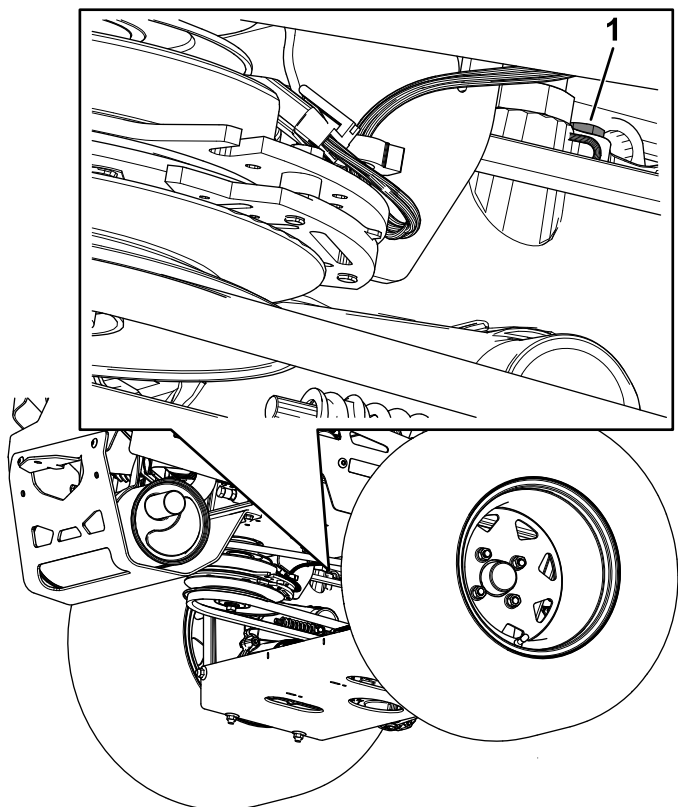

**Figure 84**
- **For ZT 4400 Hydros**, use an extension and 7/16-inch socket, access the vent plug from the top of the machine through the holes near the roll-bar mounts (Figure 84).